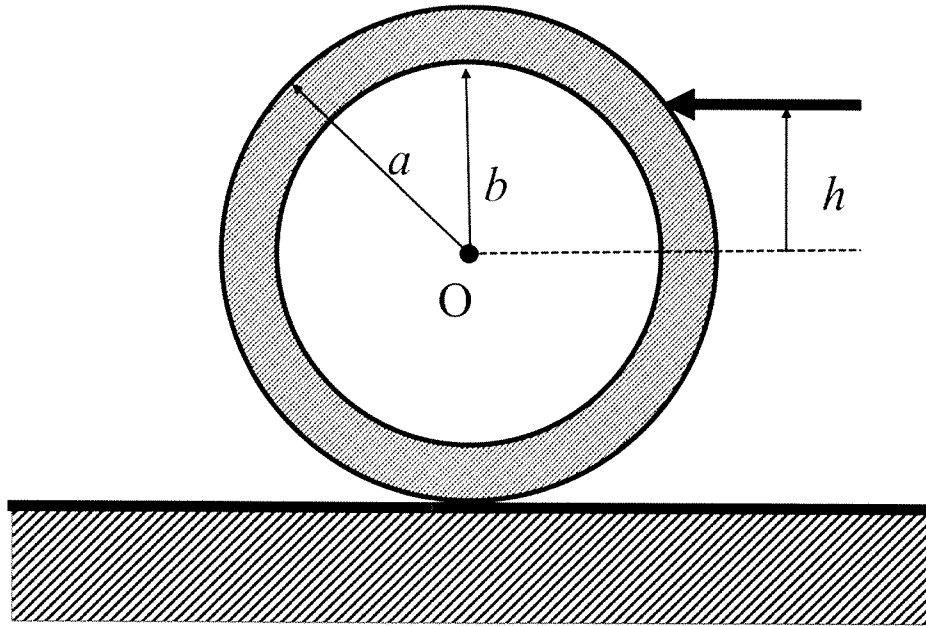

Figure 1
1. Consider the motion caused by horizontal impact force at height  $h (> 0)$  from the center of gravity  $O$  of the cylinder placed on the floor, as shown in Figure 1. Here, mass of cylinder, dynamic coefficient of friction between cylinder and floor, and gravitational acceleration are denoted as  $M$ ,  $\mu'$ , and  $g$ , respectively. Also, the velocity of the center of gravity of the cylinder immediately after the impact and the angular velocity about the central axis of the cylinder are denoted as  $v_0$  and  $\omega_0$ , respectively. Here, the tangential velocity of the cylinder  $u_0$  is given by  $u_0 = a\omega_0$ . The height of the impact in the case of rolling without slipping immediately after the impact is denoted as  $h_0$ .